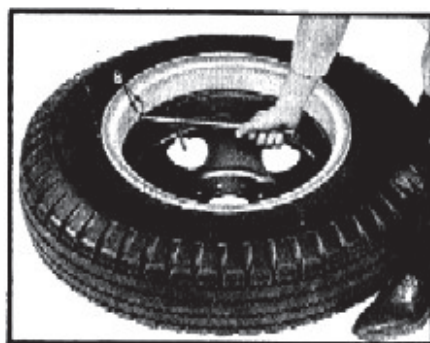
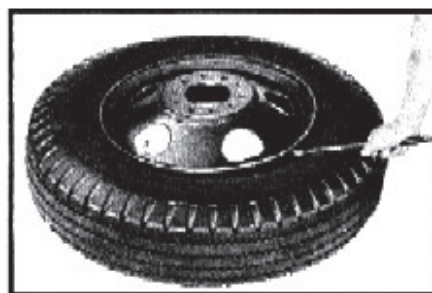

Fig. 74
Fig. 75
3. Insert straight end of tire iron into operating notch located at double pimples "B" (fig. 74).
5. To free opposite tire bead from wheel rim, turn tire over and repeat bead loosening operation (fig. 75).
**NOTE:** It is not necessary to remove side ring from tire bead if tire is to be removed for tube repair only. Simply loosen tire bead from wheel rim as in figure 75. Then turn assembly over and remove ring with tire attached as in figure 74.